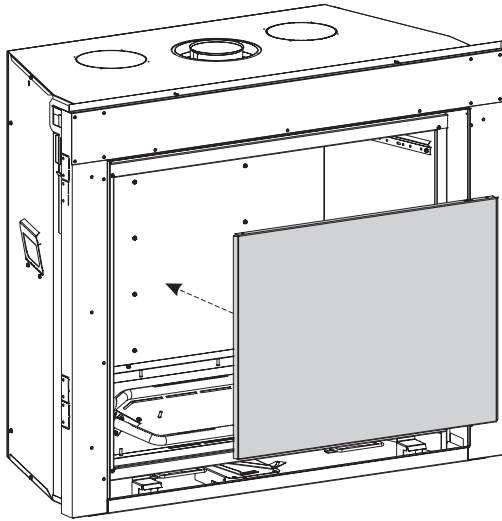

Figure 3
1. Place LINER REAR on the back of the firebox and hold with one hand. (See Figure 3)